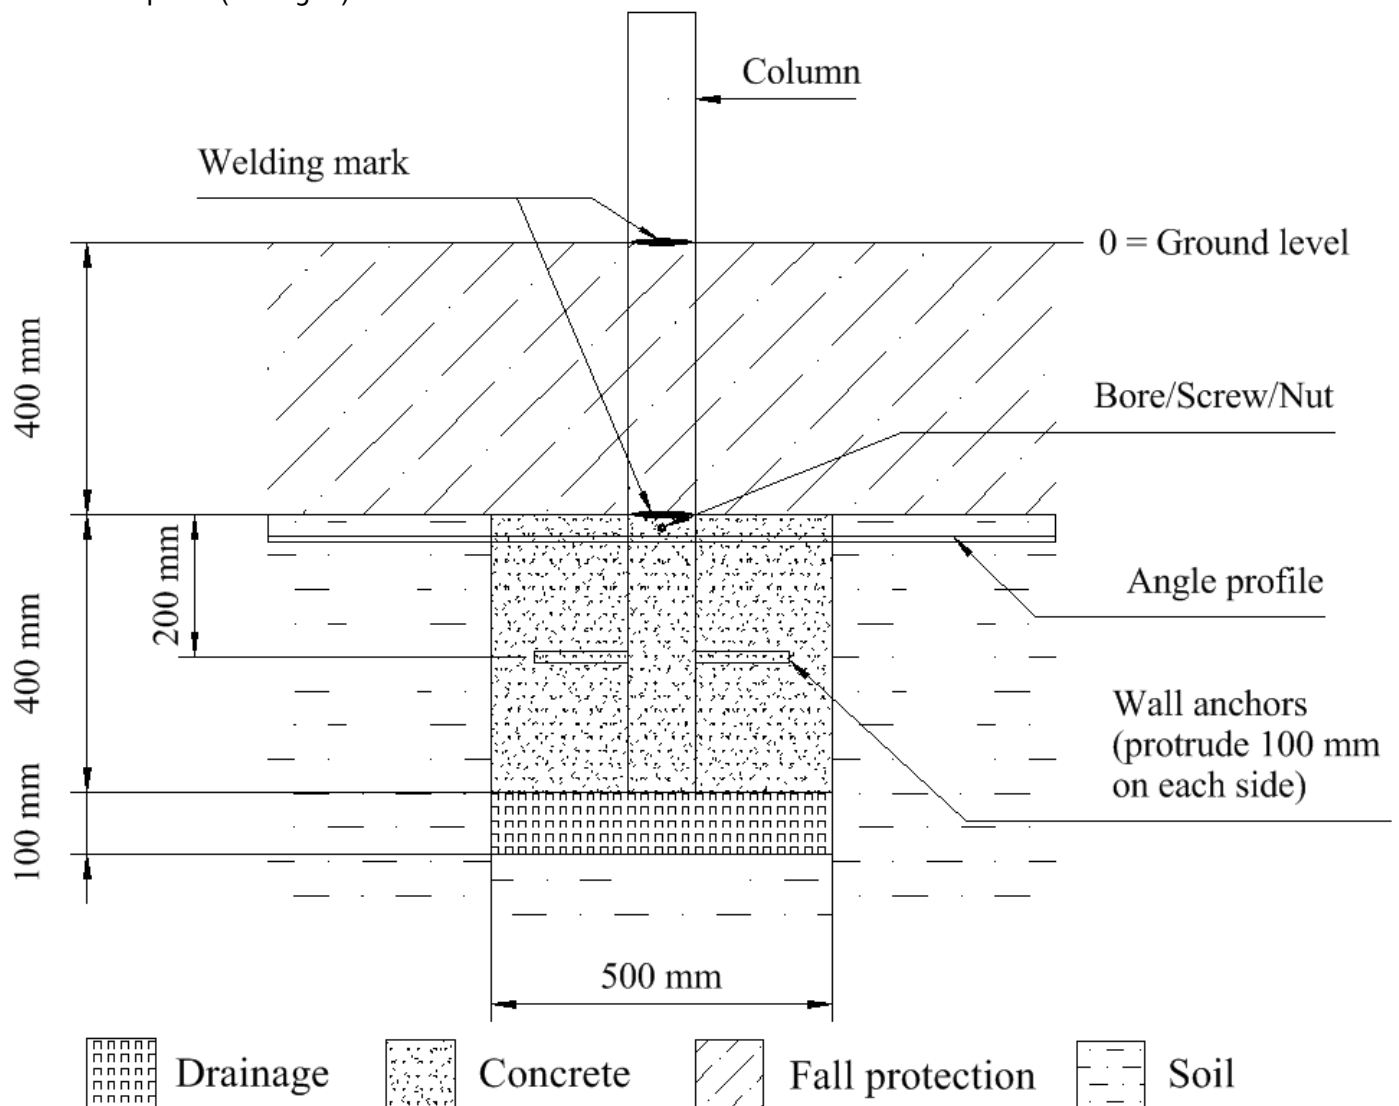

Figure 2 – General foundation
To uniformly cover the entire movement and safety surface for the equipment, we recommend a general depth of 900mm for the installation with a fall protection layer of 400mm. With a layer depth of 800mm, the foundations are also frost-proof (see Fig. 2).
*These should protrude **100mm** on each side (see Fig. 2).*
11. After the setting time of the foundations the filling material for the fall protection area (safety surface) can be filled in the remaining holes up to the upper welding mark on the ground level (see Fig. 2).